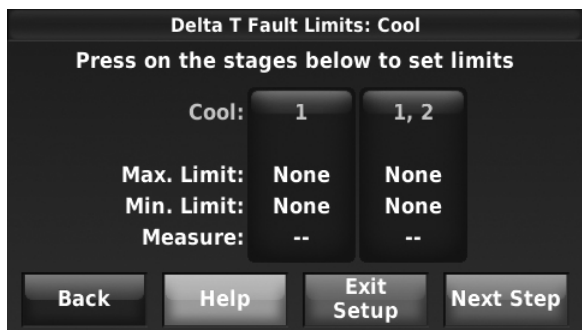
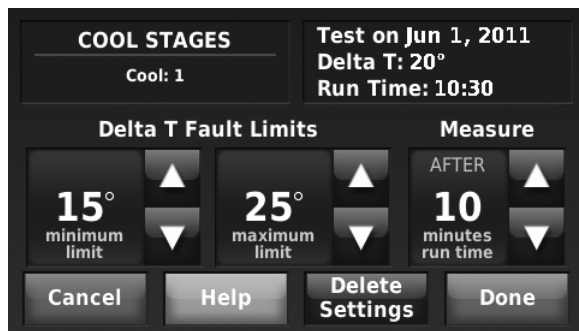

Fig. 158.
Fig. 159.
1. Press Stage 1 to set the limits and run time (see Fig. 158). Use the saved test data located in the upper right corner of the screen to set the Delta T Minimum and Maximum Limits and the Run Time (see Fig. 159).